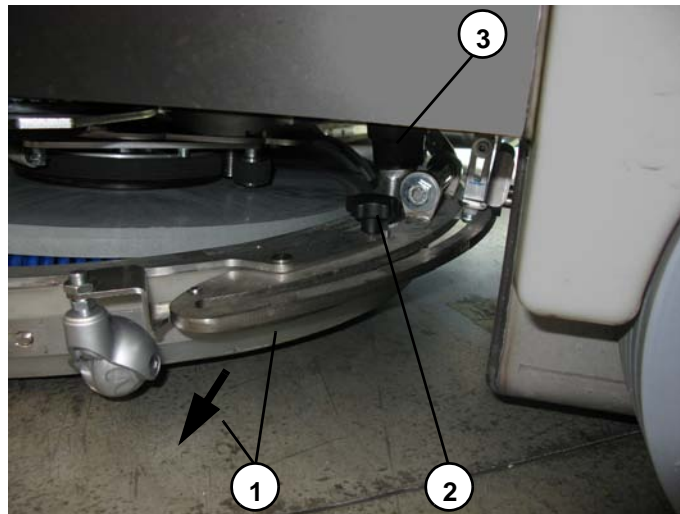

Figure 5-13
3. By acting of the left side of the wash-and-dry machine, with the squeegee in raised position, move slightly the squeegee outwards (1, **Figure 5-13**), then loosen its fastening knob (2).
4. Disconnect the suction pipe (3, **Figure 5-13**) from the squeegee.
5. Remove the squeegee (1).
Flexible hose (3, Figure 5-13) disconnected from the squeegee.	Connect it